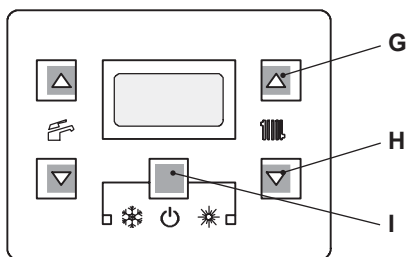
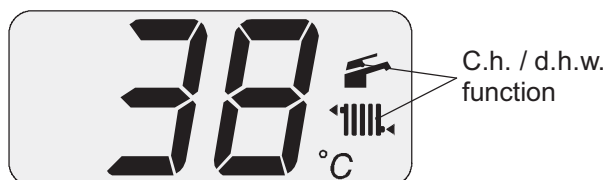

Figure 11.5
Figure 11.10
- 15 To enter in the parameters setting mode press contemporary the 3 keys (G - H - I Figure 11.5) for 10 second until the display shows Figure 11.6.
- 16 Press keys G and H (Figure 11.5) at the same time until the display shows the letters LP that alternate with the heating water temperature value (e.g. 45), indicating the activation of the "chimney sweep function" at minimum output (Figure 11.7).
- 24 Press keys G - H - I (Figure 11.5) at the same time again to exit the "chimney sweep mode" and return to the previously set boiler status (Figure 11.10)